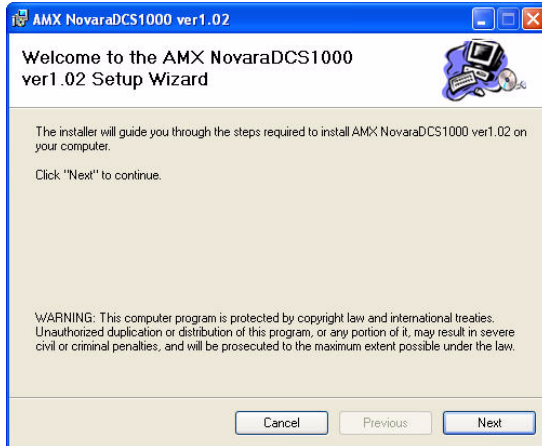

FIG. 39 AMX DCS1000 Setup Wizard
2. Double-click the installation file to launch the *AMX DCS1000 Setup Wizard* (FIG. 39). Click **Next** to proceed.